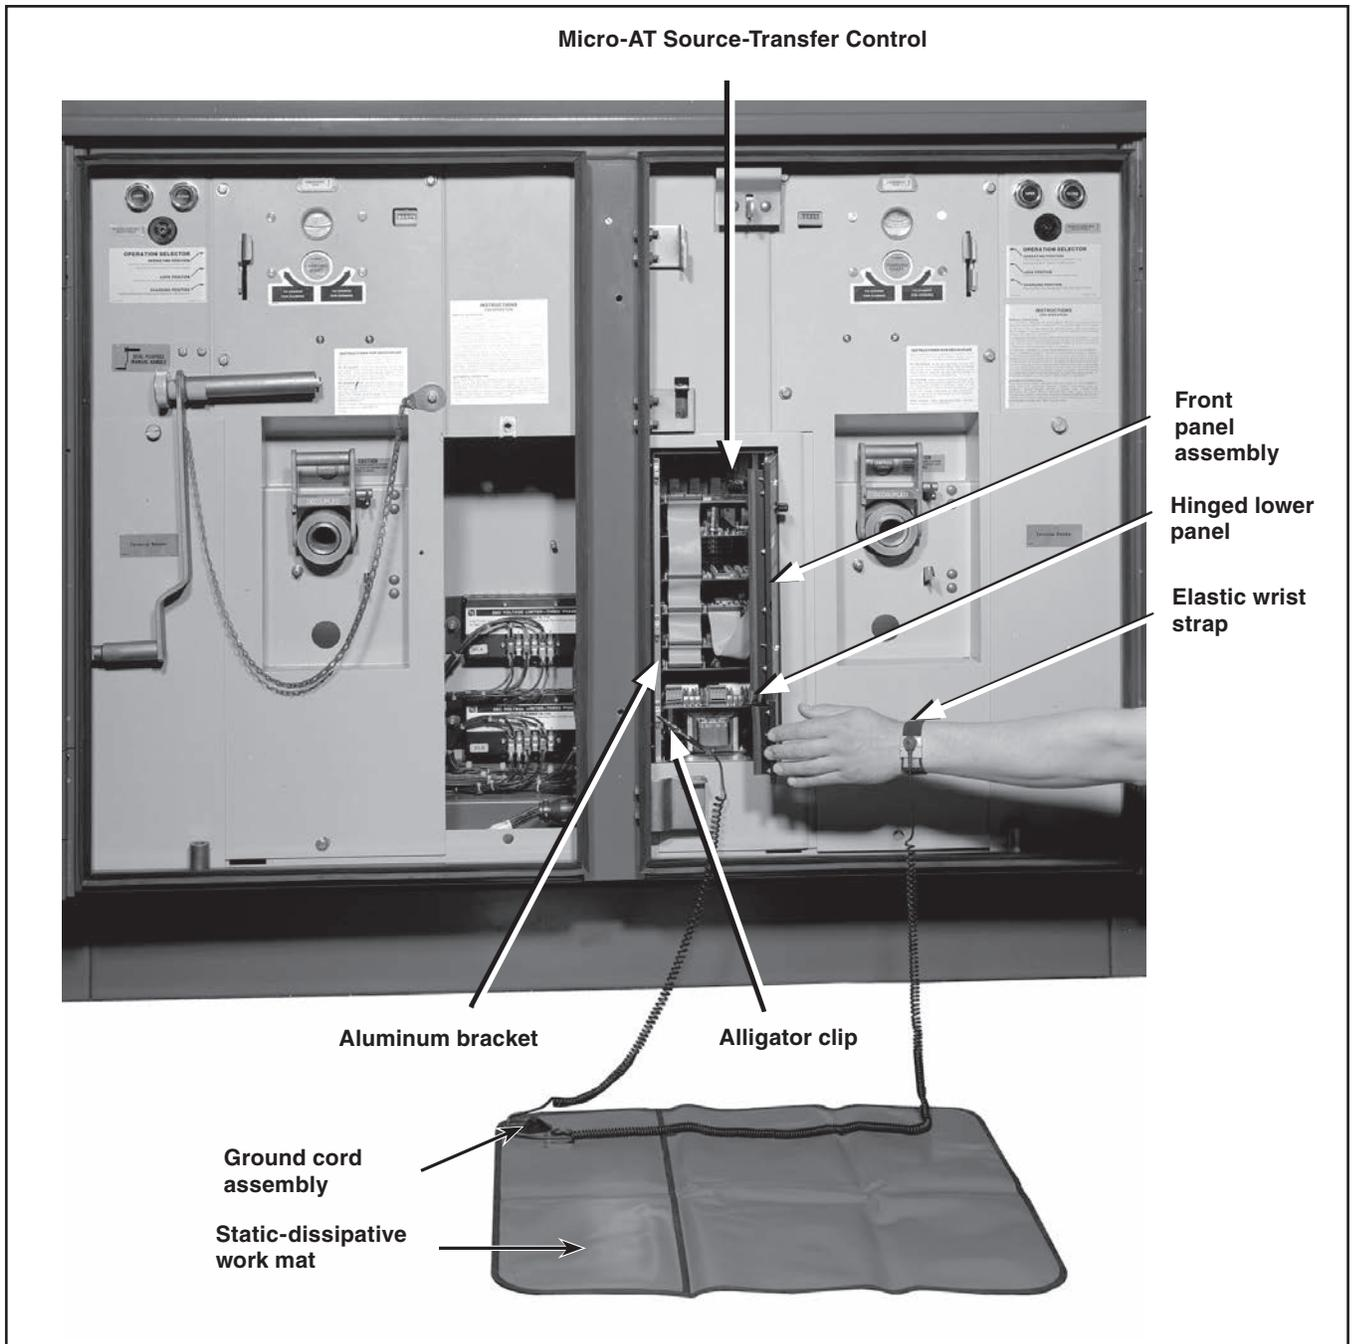

Figure 2. Setting up a 3M 8501 Portable Static-Dissipative Field Service Kit.
STEP 4. Open up the static-dissipative work mat in front of the Micro-AT Source-Transfer Control. See Figure 2 on page 7.
Loosen the two screws that retain the front panel assembly and swing open the front panel assembly. Also loosen the screw that retains the hinged lower panel and swing open the lower panel. See Figure 2 on page 7.
STEP 5. Attach the ground cord assembly onto the work mat by means of the large black snap. See Figure 2 on page 7.
STEP 6. Attach the alligator clip on the shorter of the two wire leads to one of the three aluminum brackets on the source-transfer control enclosure. See Figure 2 on page 7. The lowest bracket is generally the most convenient to use.
STEP 7. Slip on the elastic wrist strap and attach the band so it fits snugly, but comfortably. Attach the longer of the two wire leads to the wrist band by means of the small plastic snap. See Figure 2 on page 7.
STEP 2. Attach the ground cord assembly onto the work mat by means of the large black snap. See Figure 2 on page 7.
STEP 4. Slip on the elastic wrist strap and attach the band so it fits snugly, but comfortably. Attach the longer of the two wire leads to the wrist band by means of the small plastic snap. See Figure 2 on page 7.
- (b) Carefully detach the ribbon connector plugs from their receptacles on the three lowest circuit cards. Also detach the ribbon connector plug connecting the front panel assembly to the CPU card. See Figure 2 on page 7.